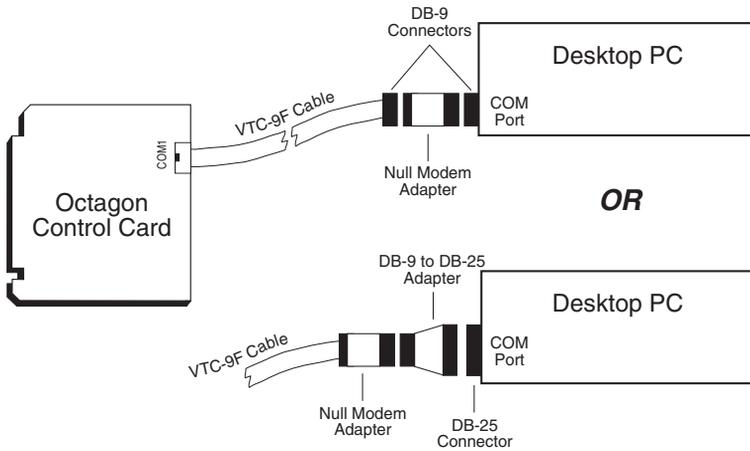

Figure 2-4 – Serial Communications Setup
6. If your PC has a 9–pin serial connector, connect the null modem adapter to any serial port (COM1 – COM4) on your PC. If your PC has a 25–pin serial connector, attach a 9– to 25–pin adapter to your null modem adapter, then insert the matching end of the 9– to 25–pin adapter into the serial port. See Figure 2-4.
4. If your PC has a 9-pin serial connector, connect the null modem adapter to any serial port (COM1 – COM4) on your PC. If your PC has a 25-pin serial connector, attach a 9-to 25-pin adapter to your null modem adapter, then insert the matching end of the 9- to 25-pin adapter into the serial port. See Figure 2-4.
5. If your PC has a 9-pin serial connector, connect the null modem adapter to any serial port (COM1 – COM4) on your PC. If your PC has a 25-pin serial connector, attach a 9- to 25-pin adapter to your null modem adapter, then insert the matching end of the 9- to 25-pin adapter into the serial port. See Figure 2-4.